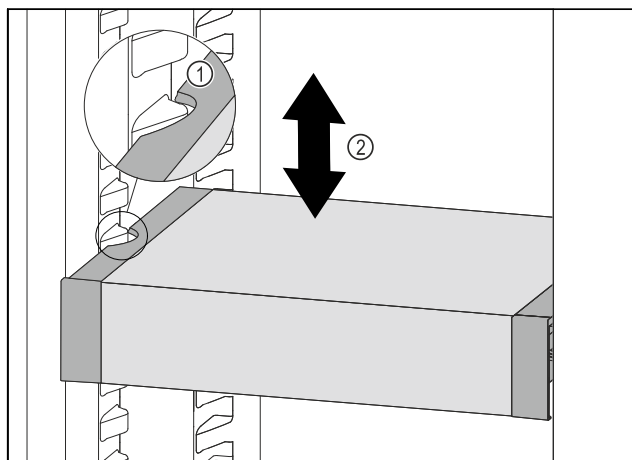

Fig. 91
- Pull VarioSafe forwards until the recesses in the side of the VarioSafe are at the level of the support rib in the refrigerator compartment. *Fig. 91 (1)*
- Move VarioSafe up or down in the refrigerator compartment until the desired height is reached. *Fig. 91 (2)*